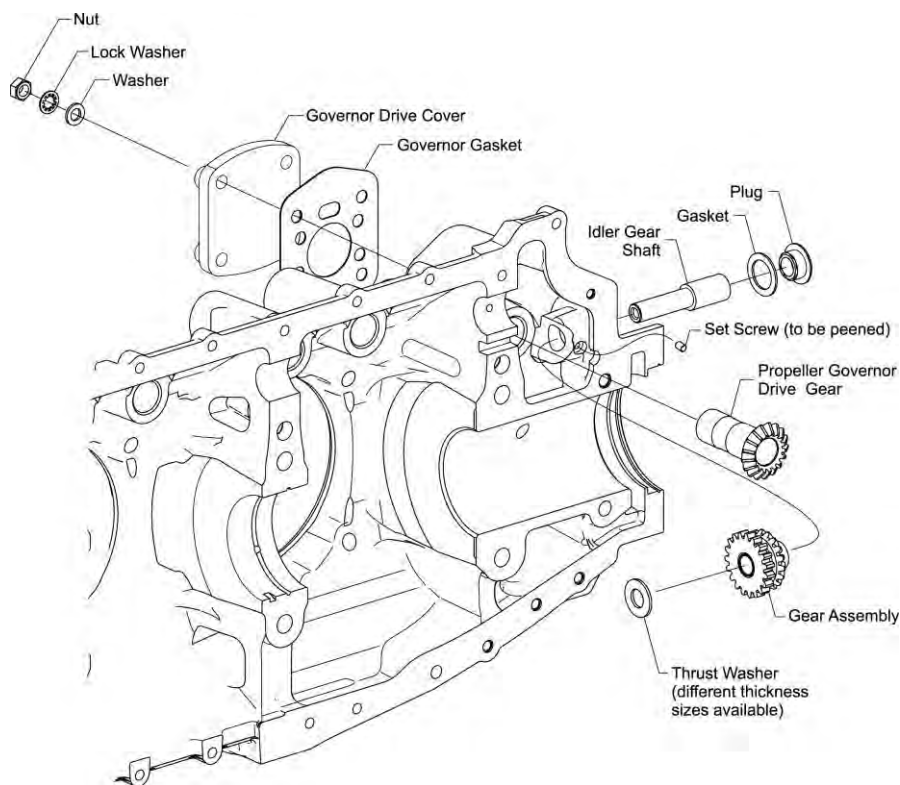

Figure 13
- (1) If not already done, remove the four nuts, lock washers and washers (Figure 13) from the front-mounted propeller governor or the propeller governor drive cover. Discard the lock washers.
- (2) Remove the propeller governor or the propeller governor drive cover and governor gasket. Discard the governor gasket.
- (3) Cut and remove the safety wire/cable from the idler gear shaft plug (Figure 13).
- (4) Remove the idler gear shaft plug and gasket from the crankcase (Figure 13). Discard the gasket.